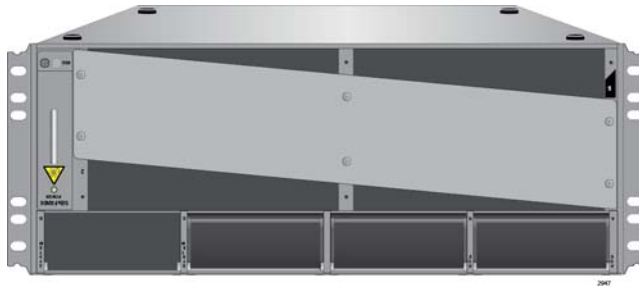

Figure 38. Turning the Chassis Upside Down
1. Place the unit upside down on a level, secure surface, as shown in Figure 38.